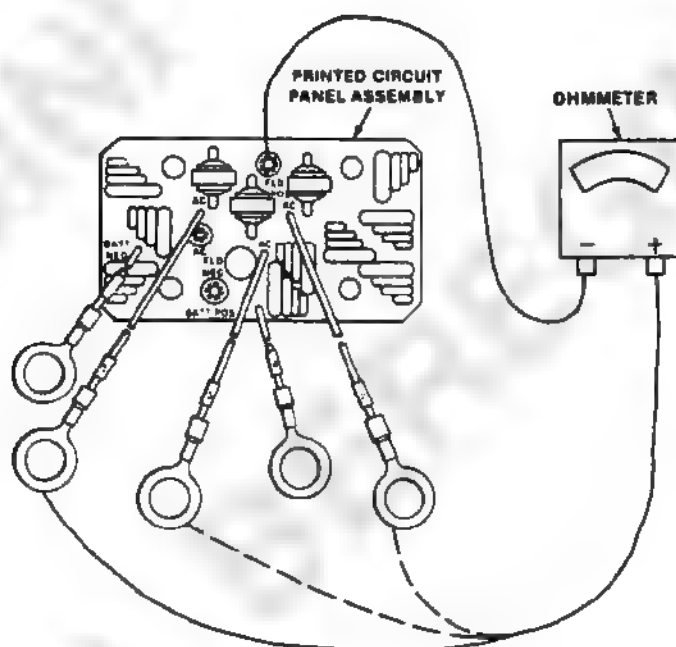

Figure 2-8. Open Printed Circuit Panel Assembly Diode Check.
- Step 10. Check for open diodes on printed circuit panel assembly. Connect ohmmeter to each of the three long black leads according to figure 2-8.